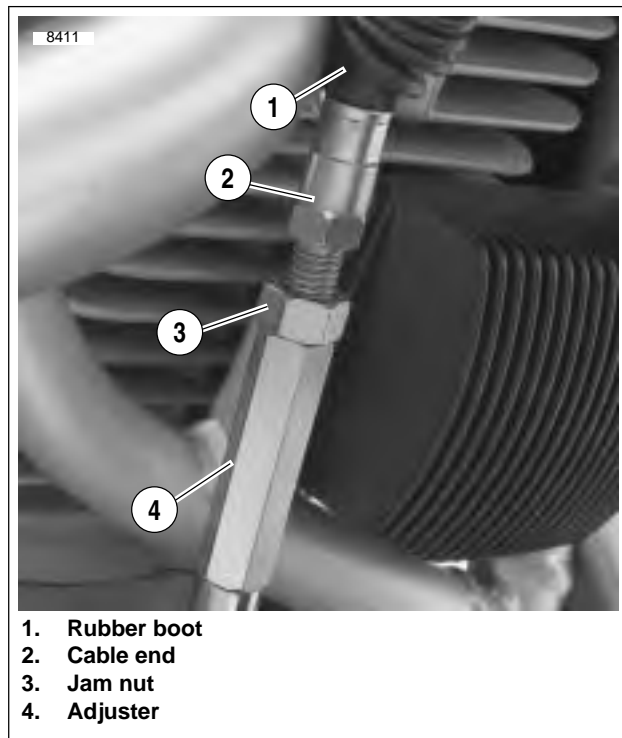

Figure 1-22. Clutch Cable Adjuster Mechanism
2. See Figure 1-22. Slide rubber boot (1) upward to expose adjuster mechanism. Loosen jam nut (3) from adjuster (4). Turn adjuster to shorten cable housing until there is a large amount of free play at clutch hand lever.
- b. See Figure 1-22. Set free play by turning adjuster (4).
- c. Tighten jam nut (3) against adjuster (4).
- d. Slide boot (1) over cable adjuster mechanism.